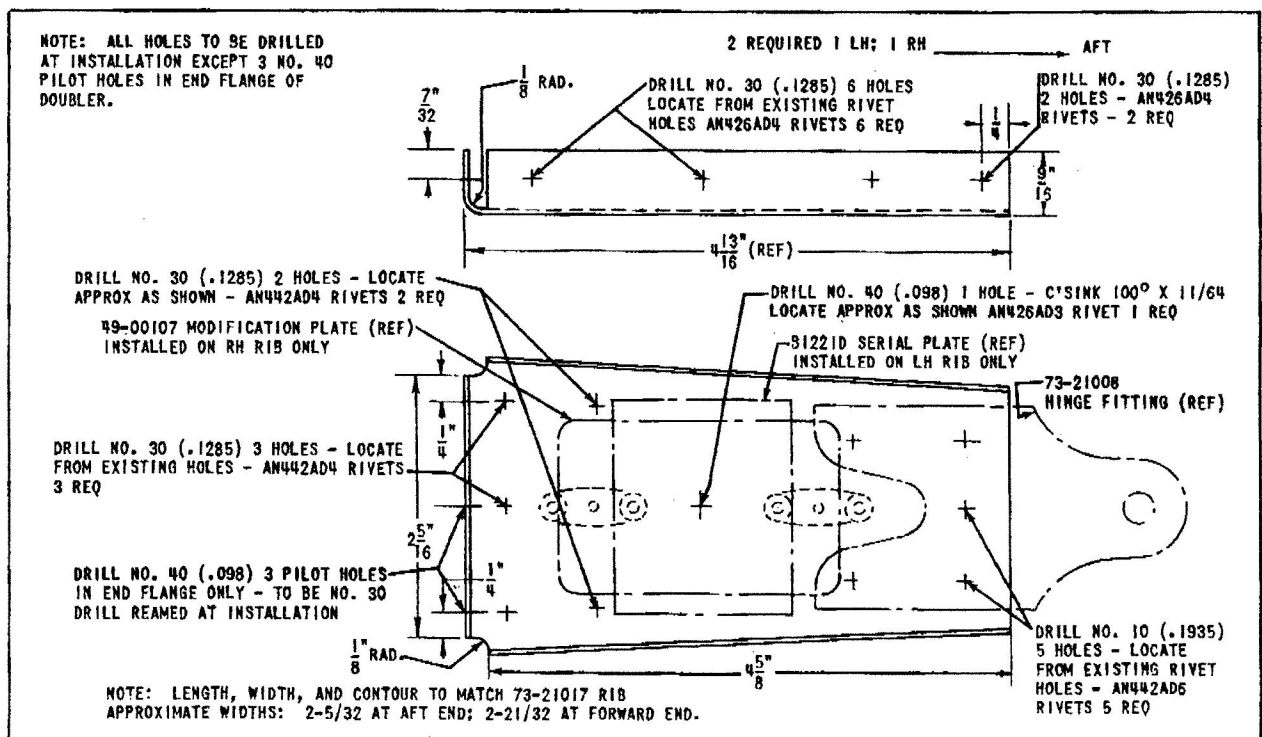

Figure 4 - Station 70 1/2 Horizontal Stabilizer Rib Reinforcing Doubler Channel
b. Manufacture three reinforcing doubler channels in accordance with figures 4 and 5.
(1) Remove tips from stabilizer by removing the screws which retain the tips.
(2) Drill out five rivets, part No. AN442AD5, attaching the hinge fitting, part No. 73-21008, to the rib. Remove the fitting and retain for subsequent reinstallation.
(3) Remove the angle, part No. 73-21037-2, by drilling out the six rivets, part No. AN442AD4.
(4) Remove the modification plate, part No. 49-00107, or serial plate, part No. B1221D, depending on whether the right or left side of the stabilizer is being worked on. Retain both plates for subsequent reinstallation.
(5) Drill out the second, third, and fourth rivets in the upper and lower skin along the elevator counter-balance cut-out adjacent to the rib, part No. 73-21017, counting from the aft edge of the stabilizer.
(6) Place one of the station 70 1/2 horizontal stabilizer rib reinforcing doubler channels into place against the inboard side of the station 70 1/2 rib with the side flanges turned inboard. Clamp into place.
(7) Drill three No. 30 (.1285-inch) holes in the forward end of the doubler. The holes in the web of the doubler should be located from the three existing holes in the rib web provided for the angle, part No. 73-21037-2. The three pilot holes in the end flange of the doubler should be drill reamed to match the existing holes in the beam.
(8) Attach the doubler to the rib and beam using three rivets, part No. AN442AD4-5, to attach the doubler to the rib web, two rivets, part No. AN442AD4-6, to attach the doubler to the beam (upper and lower rivets) and one rivet, part No. AN442AD4-5, to attach the doubler to the beam (center rivet).
(11) Drill six No. 30 (.1285-inch) holes in the upper and lower flanges of the doubler. Locate the holes from the existing skin rivet holes. No. 30 drill ream the skin holes and countersink the skin 100 degrees by 7/32 inch.
(12) Drill two No. 30 (.1285-inch) holes in the upper and lower flanges of the doubler and through the skin, locating the holes 1/4 inch from the aft end of each flange of the doubler. Countersink the skin 100 degrees by 7/32 inch.
(13) Attach the doubler to the skin using eight rivets, part No. AN426AD4-5.
(14) Rivet the doubler web to the rib web using rivets, part Nos. AN442AD4-5 and AN426AD3-4, as required.
**NOTE** The webs should be riveted together in at least three places as indicated in figure 4. Additional rivets will be required if the rib web has been cracked; these should be located as necessary to properly reinforce the rib web.
(15) Reinstall the modification plate, part No. 49-00107, or serial plate, part No. B1221D, using screws previously removed or rivets, part No. AN442AD2-4, as required.
(16) Reinstall the tips on the horizontal stabilizer using the screws previously removed.